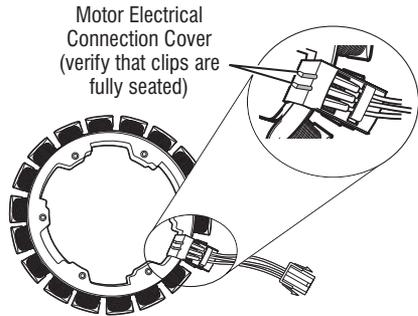

Figure 5 - Removing Shifter Coil and Checking Motor Electrical Connection
13. Visually check that motor electrical connection cover is fully seated (see Figure 5).